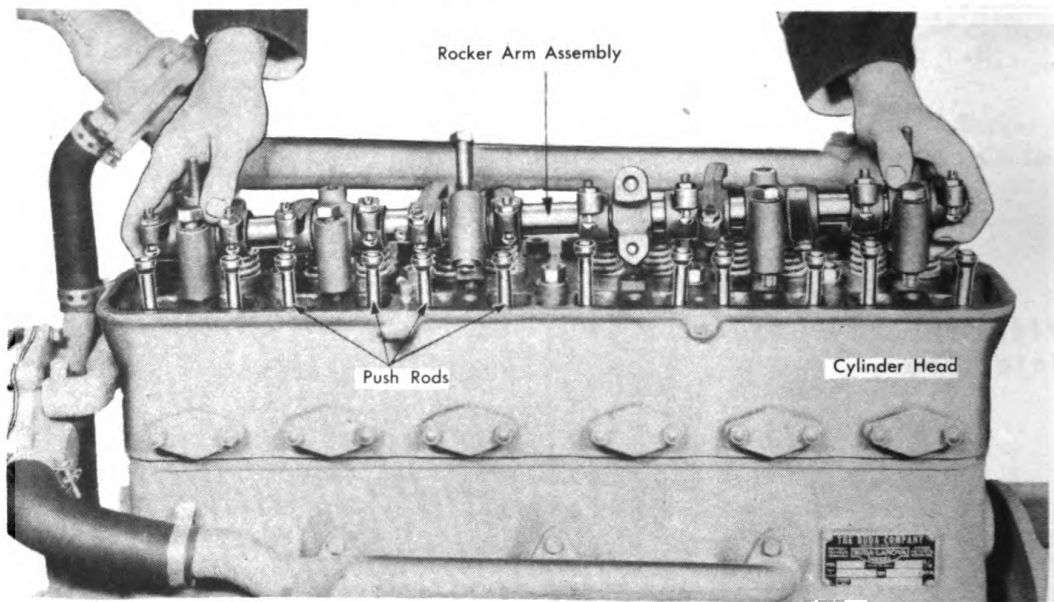

Figure 114. Removing Rocker Arm Assembly.
10. Remove the valve cover and unscrew and remove the eight bolts which hold the rocker arm assembly in place, and remove this assembly. See Figure 114.